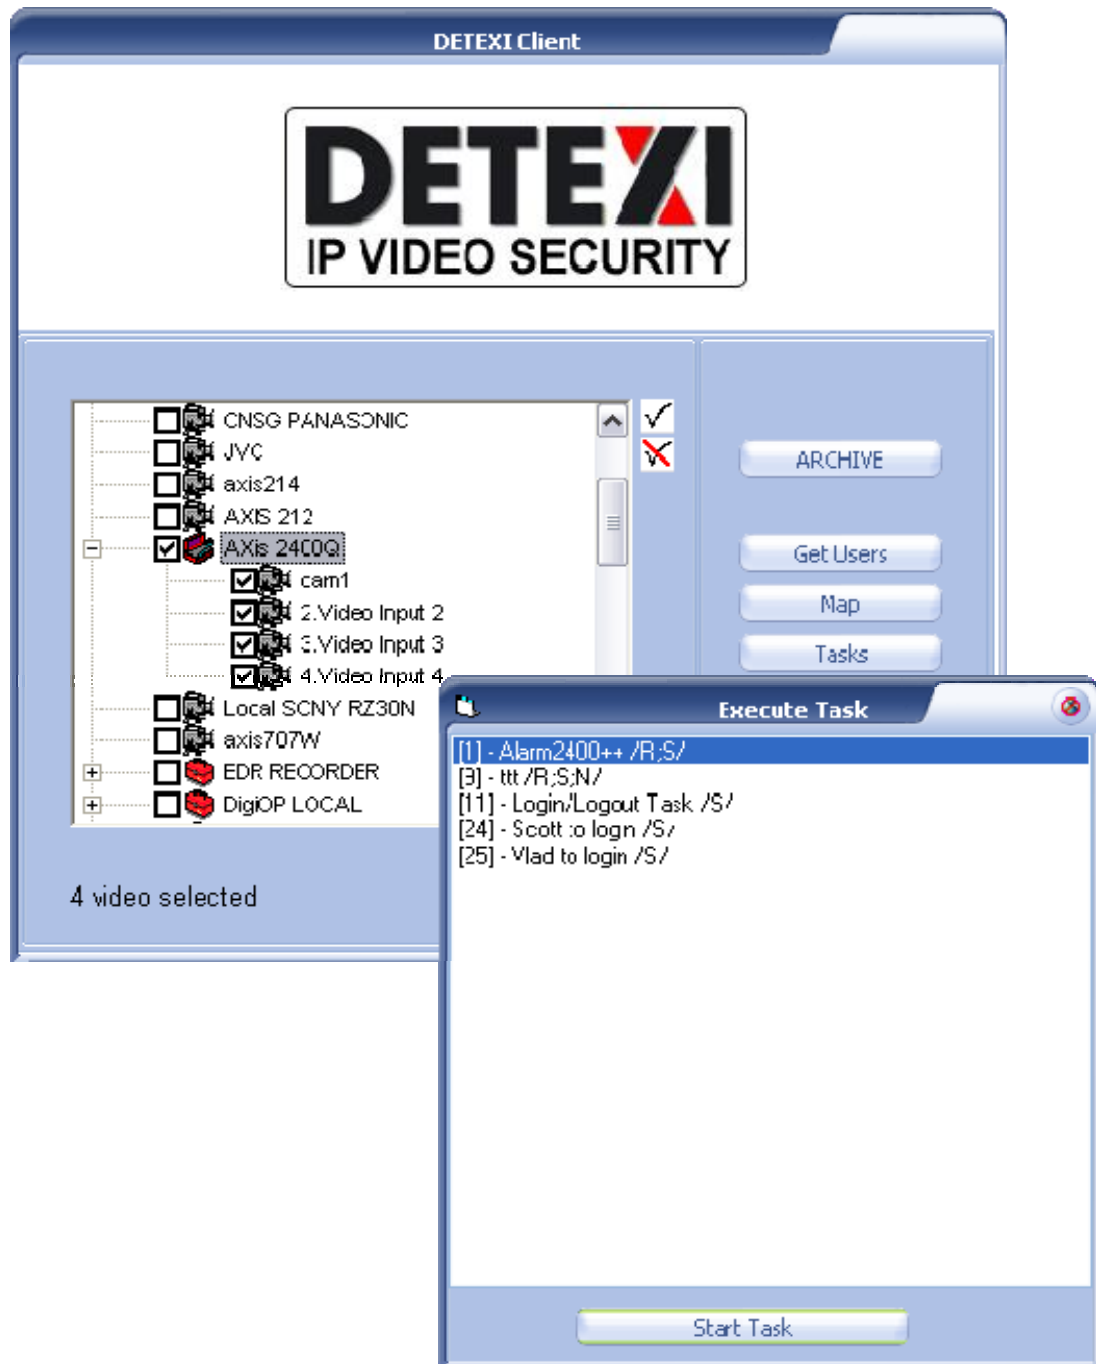

Fig 16. Remote DETEXI Client — Execute Task
1. Login to the **Remote DETEXI Client** (Fig 16).